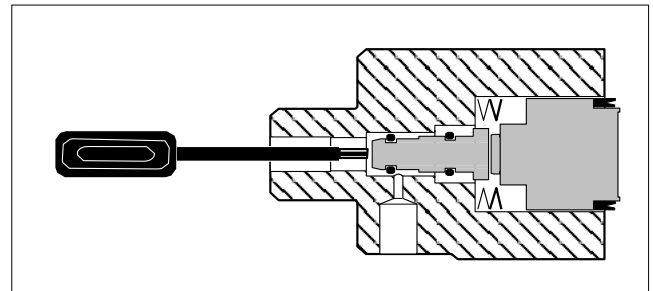

Figure 3 – Internal Parts Removal
2. Remove the base plate and the adjustment handle. Slowly push the internal parts out using a rod, hex driver, or similar tool. Use care to avoid damage to the internal surfaces of the SkoFlo valve. (See Figure 3).